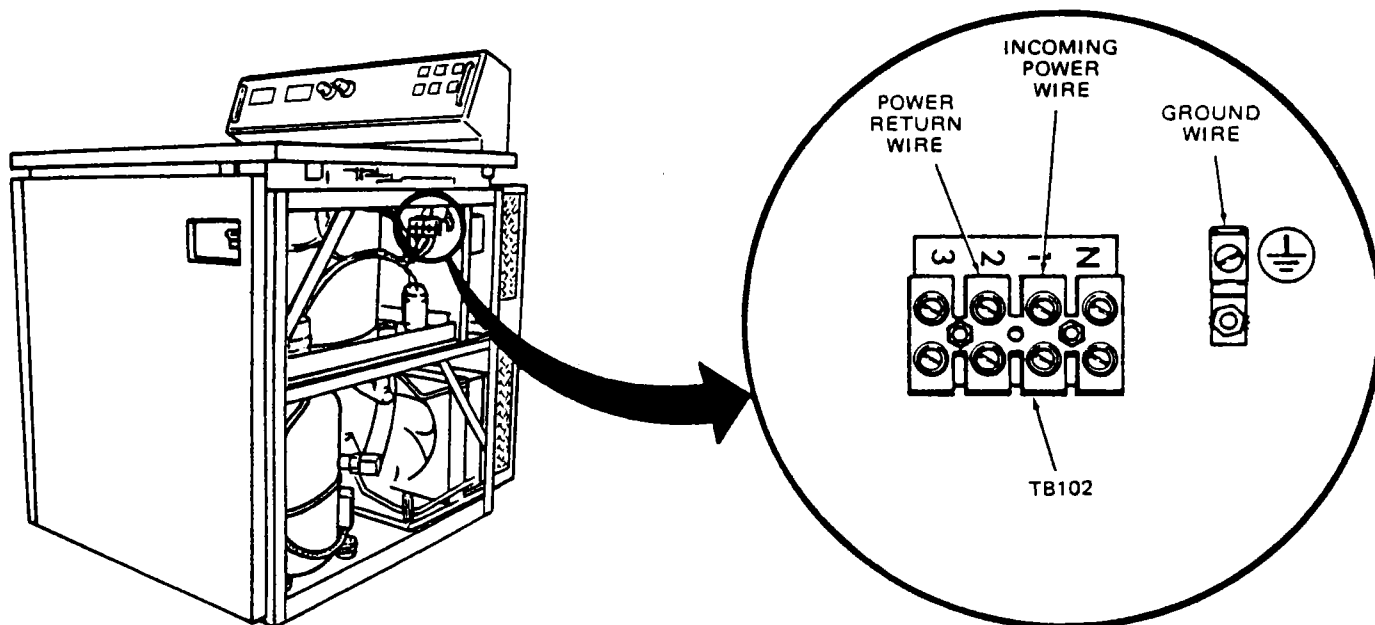

Figure 2-1. Single Phase Permanent Wiring
4. Connect the safety ground wire to the lug connector marked GND  , figure 2-1 (on the next page).